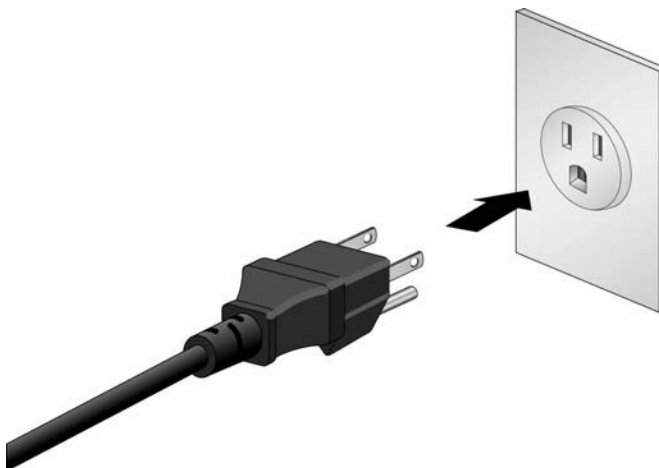

Figure 29. Connecting the Power Cord on the PWRADP-01 Power Adapter to an AC Source
3. Connect the power adapter into an appropriate AC power source. Refer to Figure 29.